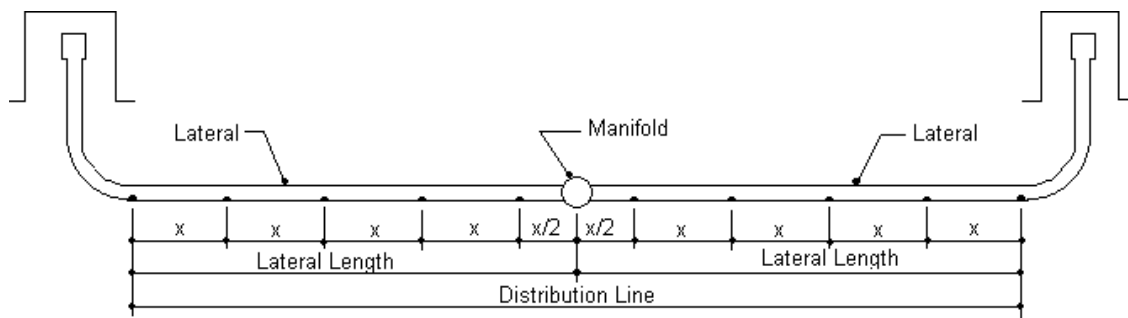

Figure 3 – Number of Orifices in a Distribution Line
5. Determine the number of orifices in a distribution lateral. The number of orifices is determined by using the following equation. See figure 3.